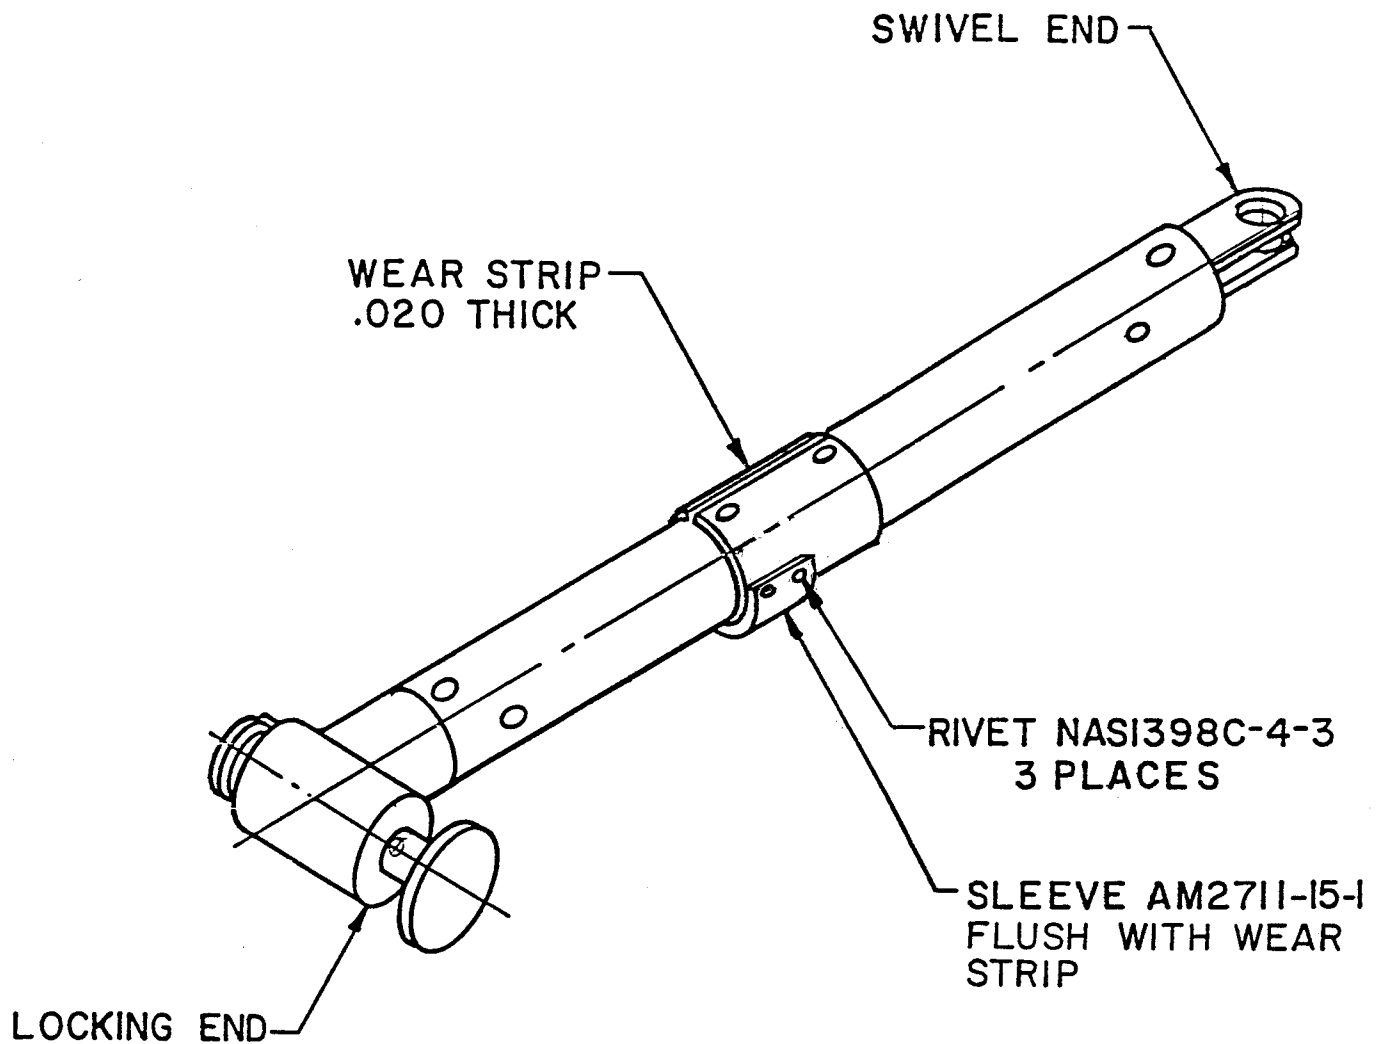

FIGURE 1 - STRUT ASSEMBLY A2711-15
1. Position sleeve (AM2711-15-2) as shown in Figure 1 and clamp in place.
5. Install one (1) NAS1398C-4-3 rivet and set rivet with installation tool.
6. Verify hole alignment on the remaining two (2) holes by inserting rivets and setting with installation tool.